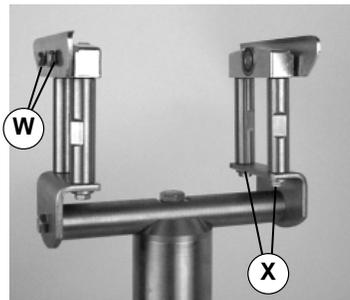

Figure 24
3. Assemble and loosely attach the mounting bracket with return roller to the stand as shown (Figure 24). Leave hardware (W & X) loosely attached at this time.